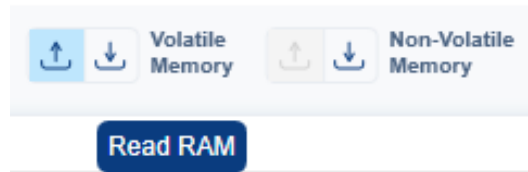

Figure 4: Read the MPQ4242B’s Register Values
- Click “ Read RAM” on the toolbar to read the MPQ4242B-0000’s register values (see Figure 4).